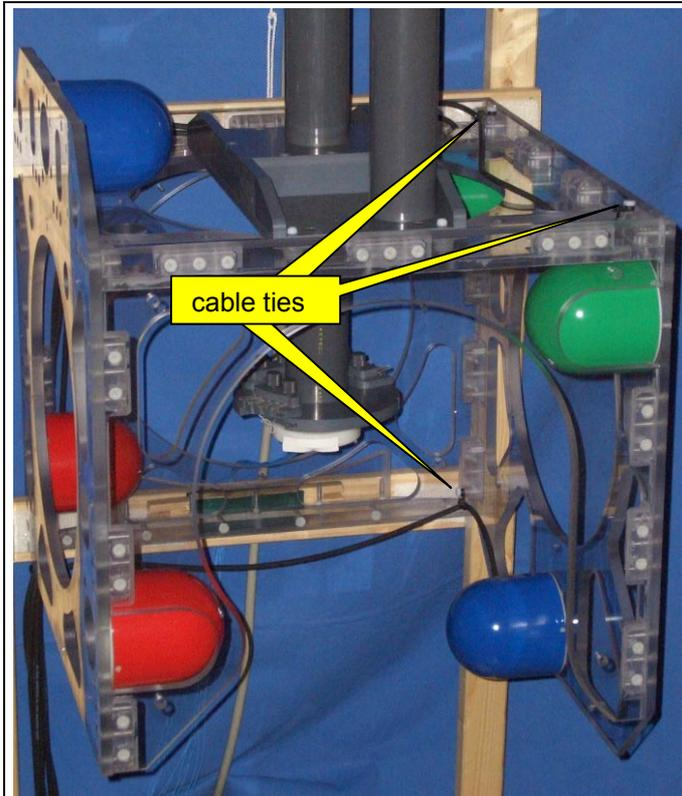

Figure 2:
- fix five cable ties with plastic screws (6x10 mm) at the places in figure 2, 3 and 7.